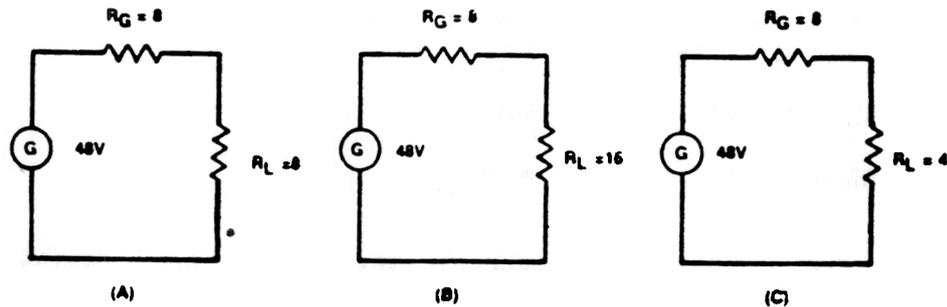

Fig 6.
Low values of resistance will be employed to illustrate the application of Ohms law. Figure 6 shows a generator (G) with an internal resistance of $8\ \Omega$, which is represented as a series resistor (R_g), as shown at A of figure 6. The generator has an output of 48V. The load resistor (R_L) is $8\ \Omega$ and is in series with R_g . The total resistance is $16\ \Omega$. Thus, 3A of current flows through the network. The power consumed by the load resistance is 72W. This is clearly evident from simple Ohm's law calculations, as follows.
-As long as the generator voltage remains at 48V and its internal resistance is $8\ \Omega$, no other value of load resistance will furnish as much power as one having an $8\ \Omega$ value. When the load resistance has a value either higher or lower, less power will be developed in it. In B of fig 6, the load resistance has been changed to $16\ \Omega$ to illustrate how the power in the load decreases when its resistance is other than $8\ \Omega$. With the $16\ \Omega$ load resistance, the power in the load drops to 64W, as indicated by the following calculation:
It should be noted that the current through the load resistor at C of figure 6 is larger than when the load resistor matches the internal resistor of the generator, as shown in A. The lower value of load resistor at C, however, results in a lower voltage drop and a corresponding decrease in power output. As the value of the load resistor is changed, below or above that which constitutes a match with the internal resistance of the generator, the resultant power in the load resistor will always maximum when the impedances are matched.